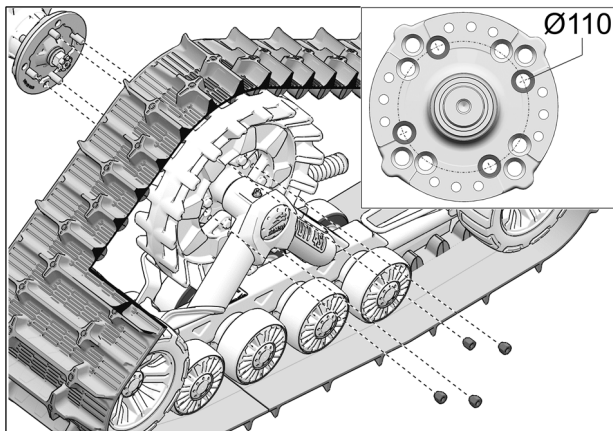

Fig. 10
9. Secure undercarriage to rear hub using the vehicle's wheel nuts. Use bolt circle $\text{\O}110$ mm. See Fig. 10